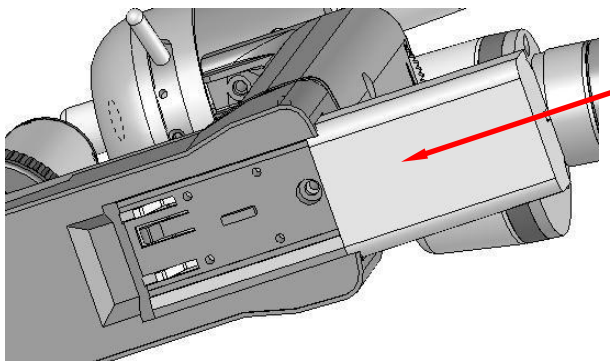

Fig.8
- 2) As shown in Fig.8, inert the battery in